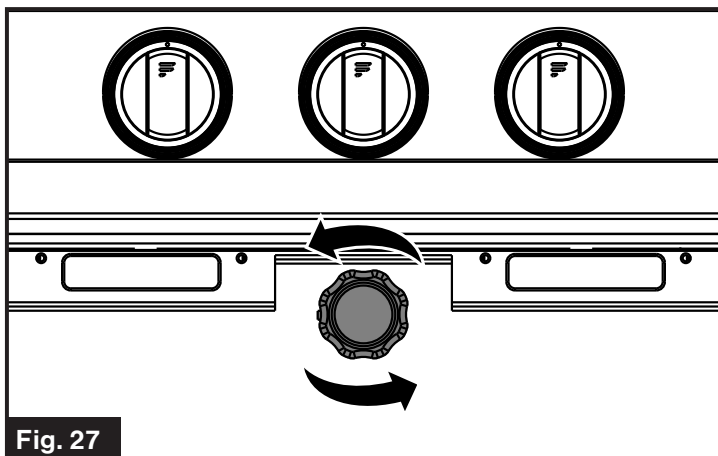

Fig. 27
2. Remove the glass cover of the lamp-holder. (Fig. 27)